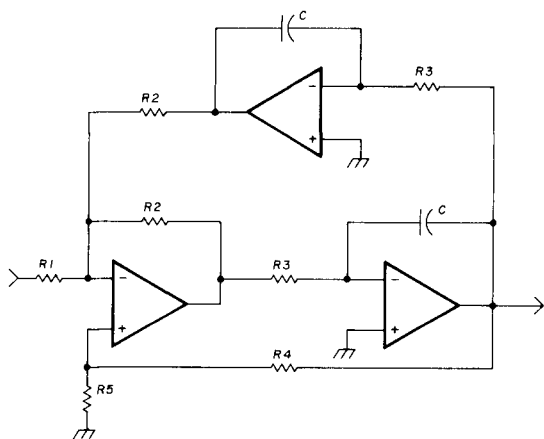

fig. 10. Schematic of the state-variable stage.
**State-variable design.** The limitations of the MFB circuit require that a higher-performance circuit be used in some cases. The state-variable circuit in fig. 10 can do some amazing things. It can provide very high  $Q$ s (over 100) and is hard to beat for stability and lack of sensitivity to passive component drift. However, it does take two more op amps and four more resistors than the MFB design.